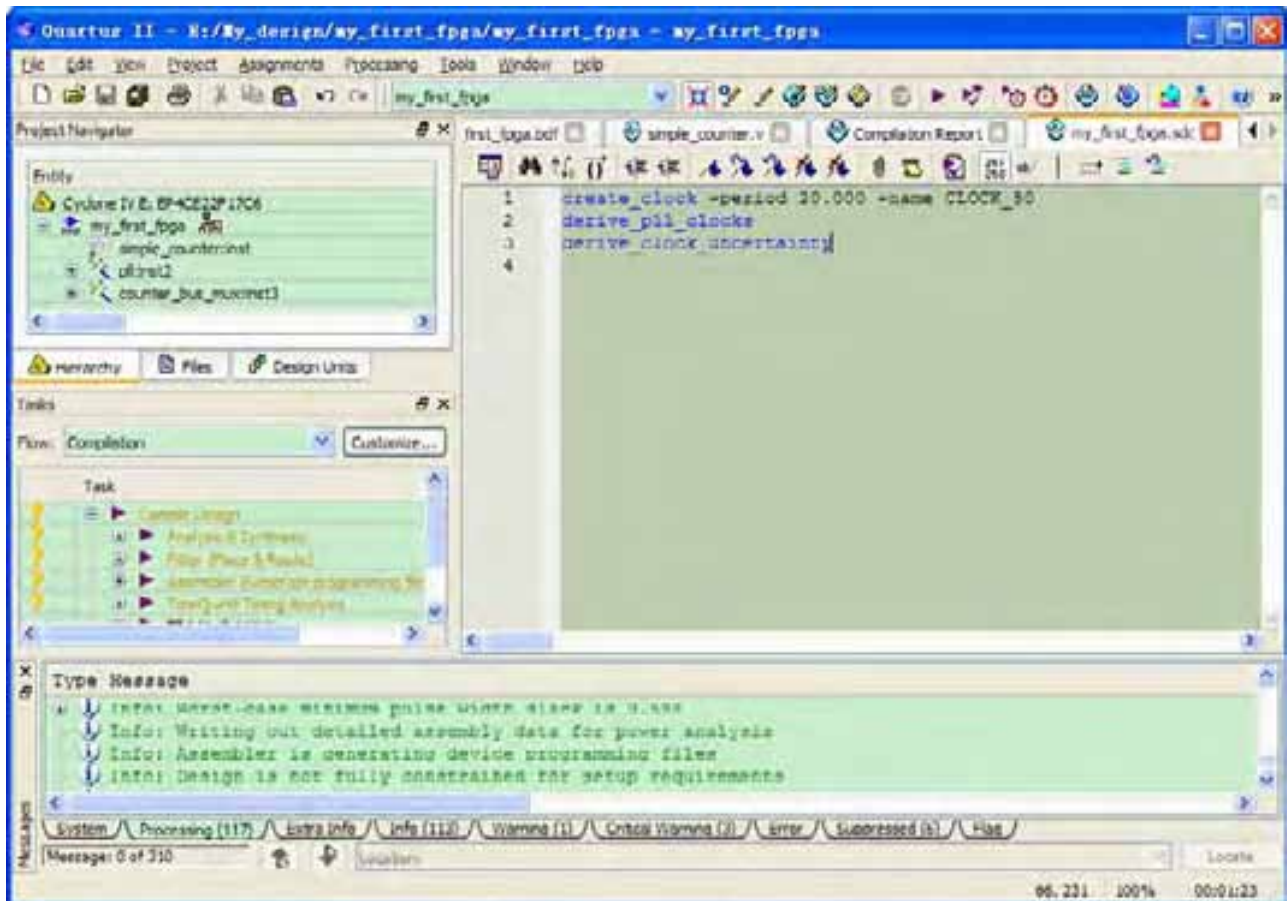

Figure 6-43 Default SDC
4. Save this file as my_first_fpga.sdc (see Figure 6-43)